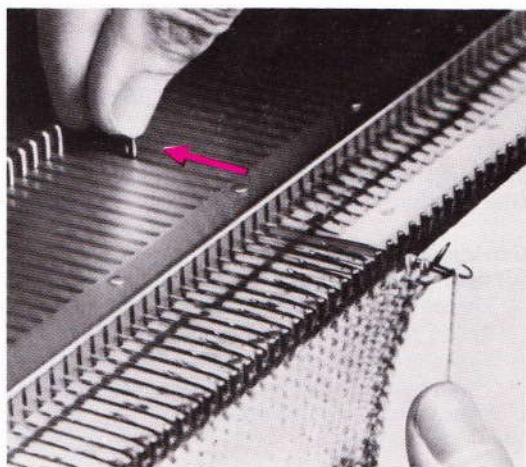

Fig. 104
4. With the right hand place the yarn in the hook of the needle and holding the butt of the needle with the left hand pull the needle back to B position to form a stitch (fig. 104). This stitch must stay loose or the cast off edge will be tight.